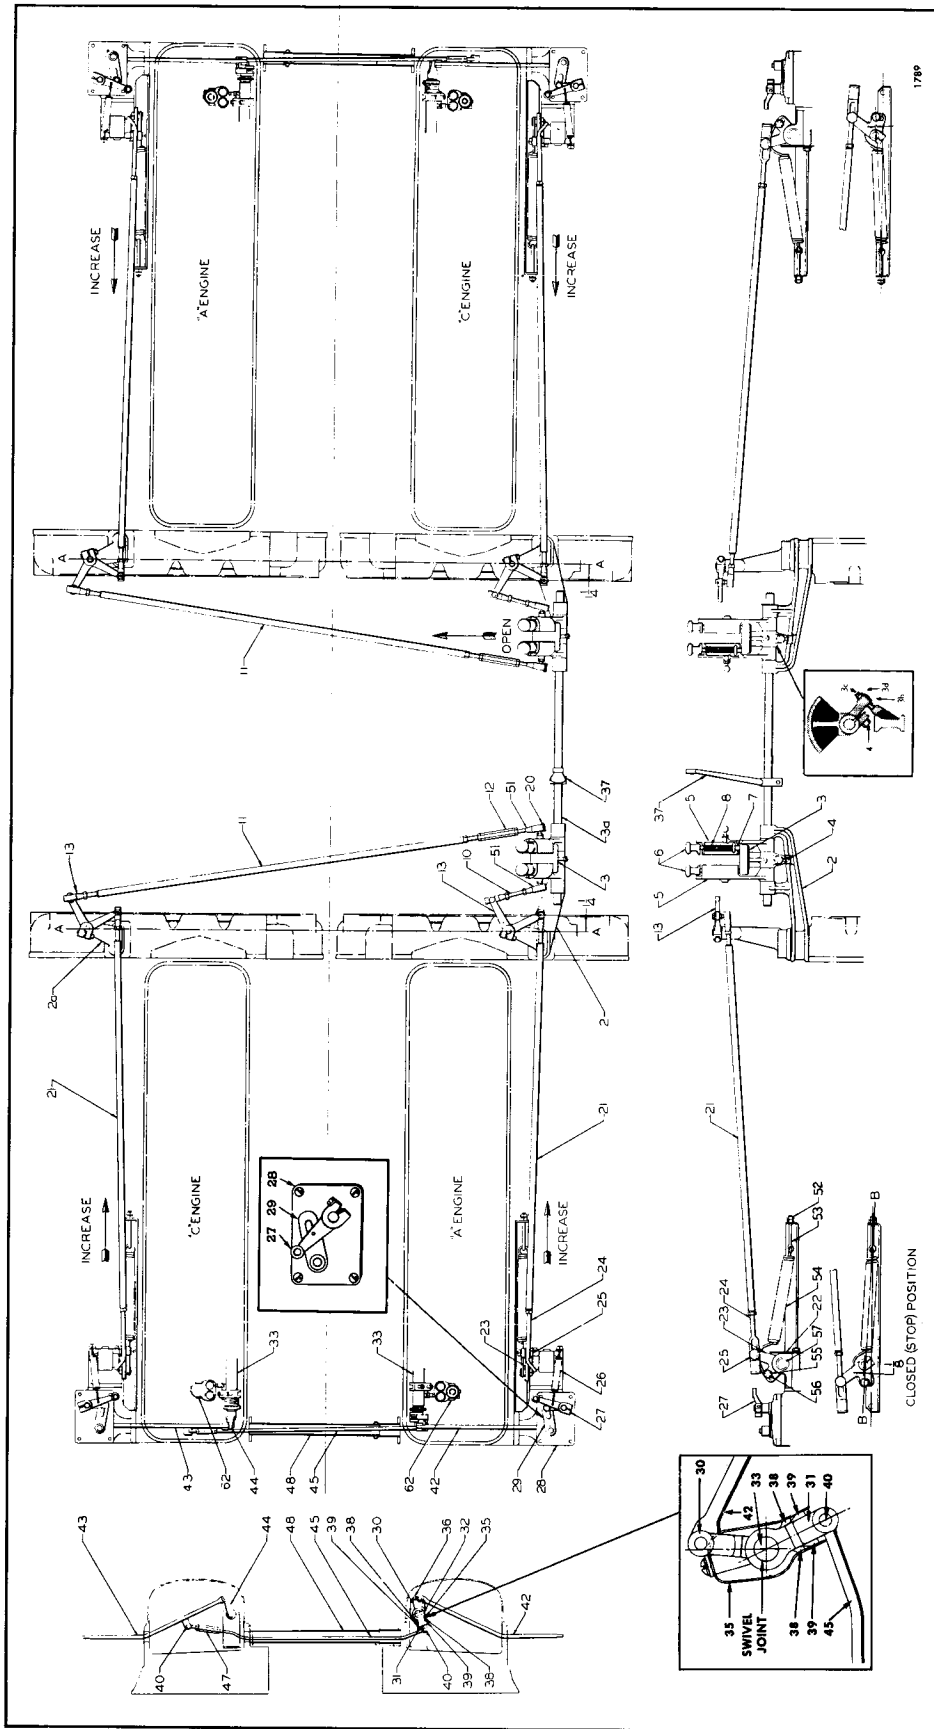

Fig. 12 - Throttle Control Adjustment Diagram for Twin or Quad Industrial Units Using Variable Speed Mechanical Governors
Fig. 12 illustrates the throttle control adjustment diagram applicable to either Twin or Quad units equipped with variable speed mechanical governors. The complete adjustment procedure for the booster spring, the throttle linkage and the cross link for load equalization is outlined below:
1. With engine running, set the governor speed control lever (23), Fig. 12, in the IDLE position.
2. Adjust spring fulcrum pin (56) 1/8" below a line "BB" drawn through the center of the eye bolt hole (53) and the center of the speed lever control shaft (57) as shown in Fig. 12.
3. Remove nut from the link to speed lever control bolt (25) and separate link (24) from bolt (25).
4. Tighten eye bolt nut (52) until the speed control lever (23) will return from FULL SPEED to IDLE position when the lever is jerked back and released. Back off nuts until lever returns quickly. Lock nuts in position.
5. Check force required to operate speed control lever--a uniform force over the range of lever travel is desired. If the force is greatest at the beginning of lever travel, adjust booster spring fulcrum pin (56) upward in the slot of the speed control lever (23). If the force seems too light at beginning of lever travel, adjust booster spring fulcrum pin downward in the slot at the speed control lever.
6. Reconnect link (24) to lever (23) with bolt (25).
5. While maintaining the throttle levers in the FULL OPEN position, as in "4" above, adjust the throttle to bell crank rods (10) and (11) to such length that the ball joint of the bell crank arms (13), which lie crosswise of the engines, are $1\ 1/4''$ off center--away from the front end of the engine--of a line drawn through the center of the bell crank fulcrums, as shown in Fig. 12.